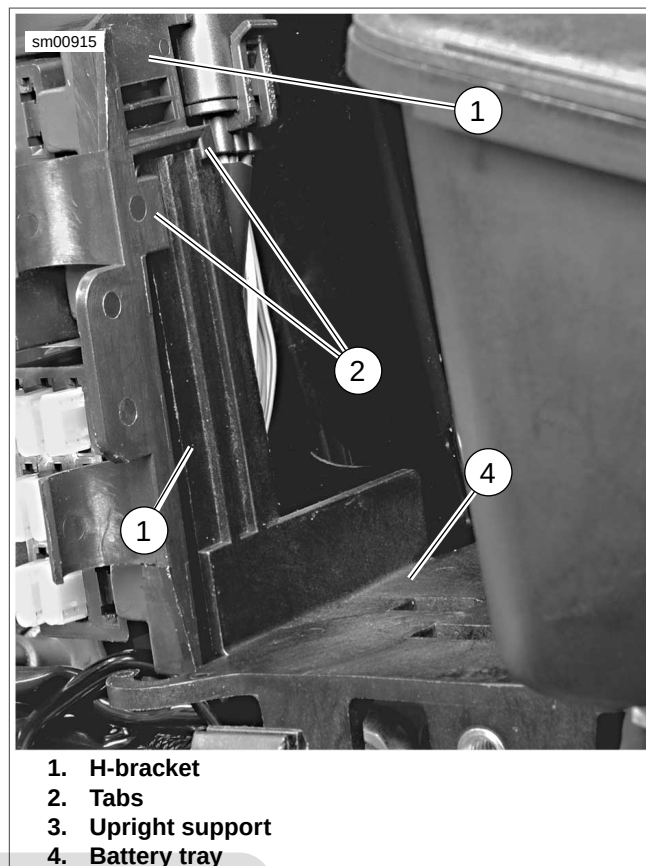

Figure 6-33. Battery Tray H-Bracket Support
6. See Figure 6-33. Slide H-bracket (1) up frame tube as far as possible and disengage battery tray upright support (3) from tabs (2) on H-bracket.
2. Slide battery tray (2) into place behind H-bracket (5). Make sure battery tray mounting tabs are positioned behind (to the right of) frame mounts.
3. See Figure 6-33. Push H-bracket (1) up as far as possible and engage battery tray upright support (3) into tabs (2) on H-bracket.